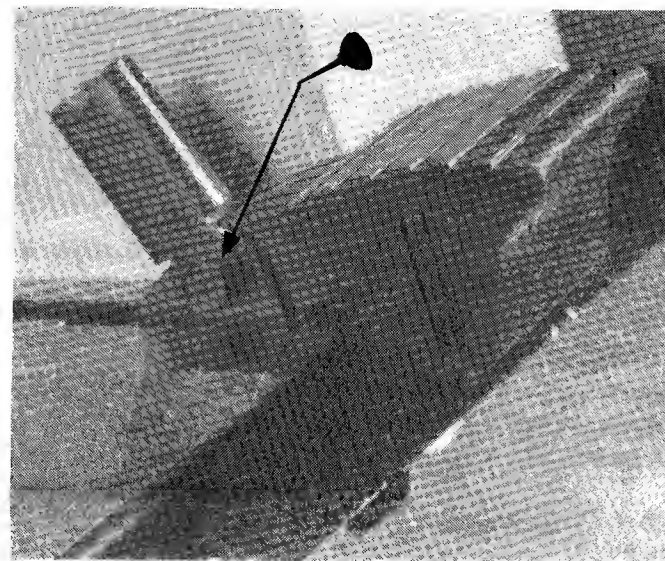
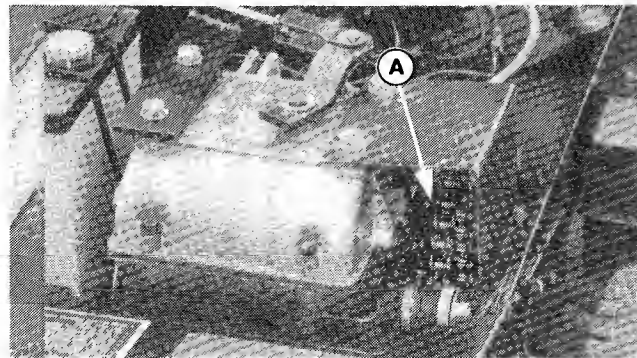

Figure 2. Lube Brake Pedal Pivot Points
Figure 6. Chain
10. **Before leaving operator's position**, set the parking brake and disengage the mower PTO. (The parking brake is shown set in figure 2.) Set the engine speed control to SLOW and allow the engine to idle for 20 seconds. Turn the key to OFF and remove it. Wait for moving parts to stop.
1. With an oil can, apply a few drops of oil to points indicated with oil can in figures 2 through 8. Oil the drive chain (figure 6) with an approved chain lubricant.